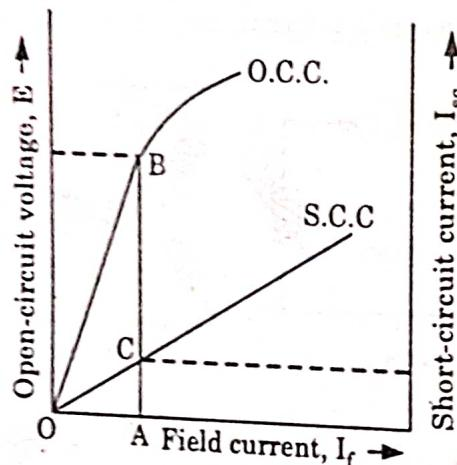

Fig. 1.13.5.
- In Fig. 1.13.5, consider the field current  $I_f = OA$  that produces rated alternator voltage per phase. Corresponding to this current the open-circuit voltage is  $AB$ .